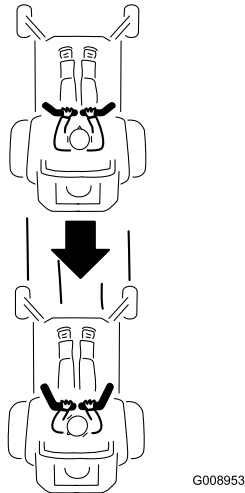

Figure 19
2. To go backward, look behind you and down, as you slowly pull the motion-control levers rearward (Figure 19).
To go straight, apply equal pressure to both motion-control levers (Figure 19).